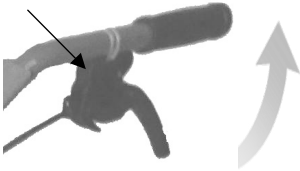

Figure 17
- 2) Take the clutch control rod to the middle position. (Figure 17)